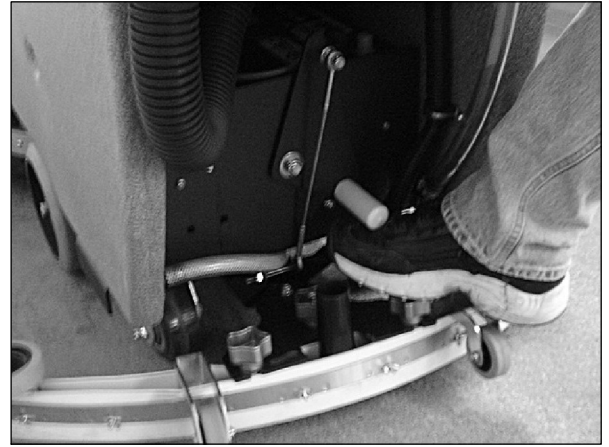

FIGURE 6.
1. LOWER THE SQUEEGEE MOUNTING PLATE BY ROTATING THE LIFT LEVER COUNTER-CLOCKWISE. (SEE FIGURE 6.)